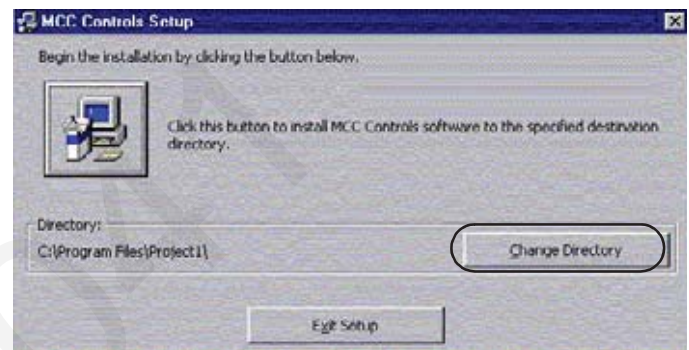

FIGURE 6
9. On the **MCC Controls Setup** screen (see Figure 6), click **Change Directory** to set location to the pre-created **MCC Controls** folder.